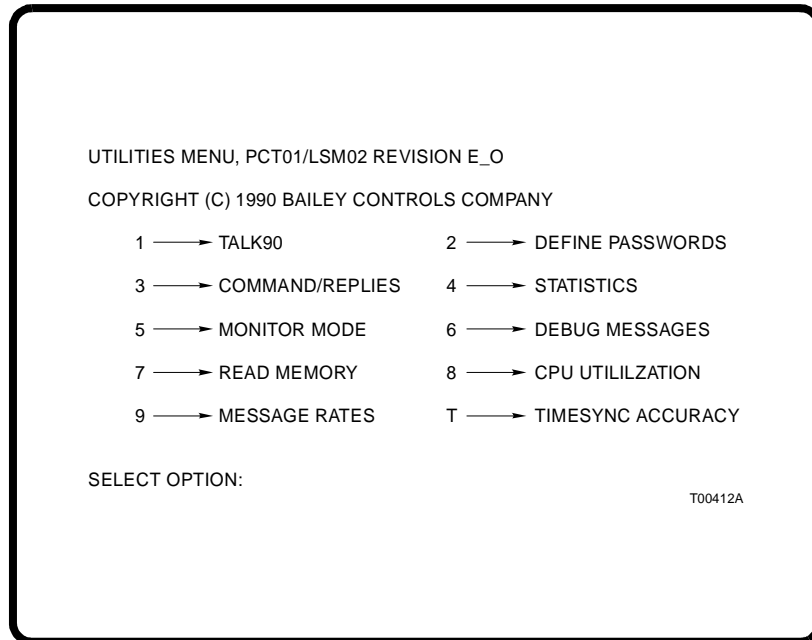

Figure 4-4. Utilities Menu
The utilities menu shown in Figure 4-4 is available to the user by attaching a diagnostic monitor to port 1. Enable this option through the PCT dipswitches. To use the INPCT01 utilities:
4. If the response is - **No** - the terminal returns to the Utilities Menu (Figure 4-4).